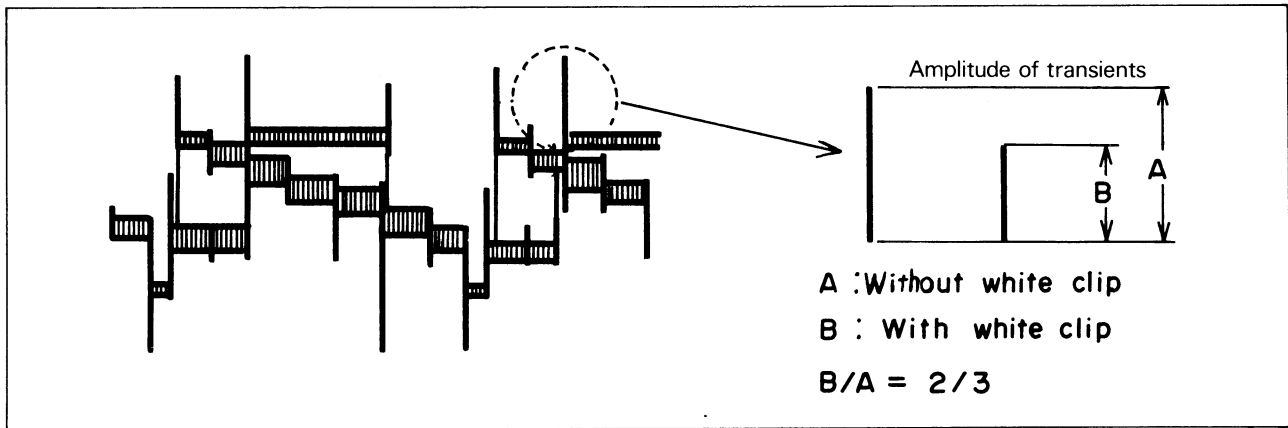

Fig. 5-58. White clip waveform
3. Adjust R16 (White Clip) at this time so that the amplitude ratio of transient "spikes" with white clip to without white clip, as shown in Fig. 5-58, becomes 2:3.